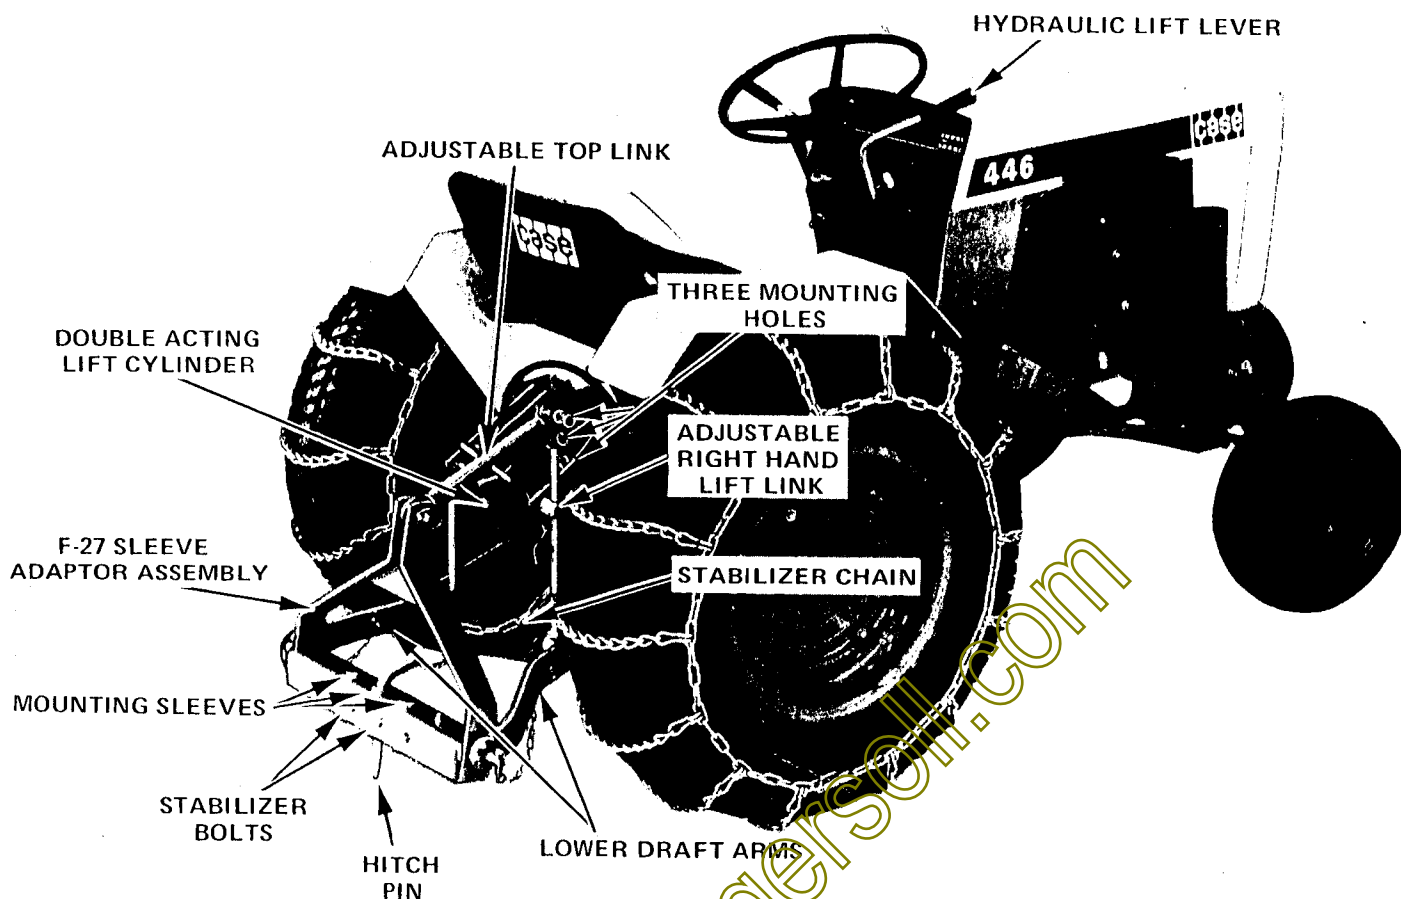

FIGURE 2
The hitch is raised and lowered with the tractor hydraulic lift lever. See Figure 2. Pull back on the lift control lever to raise the hitch. To lower the hitch or apply "down-pressure" push the lever ahead to the first stop position. The lift control valve has a centering spring which returns the lever to neutral from either the "raise" or the "lower" and "down-pressure" positions.
3. The 3-Point Hitch right hand lift link, Figure 2, is adjustable to side level a mounted attachment.